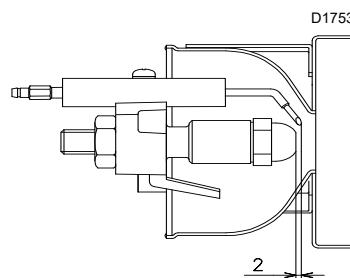

Fig. 12
- Make sure that the electrodes are placed as in Fig. 12.